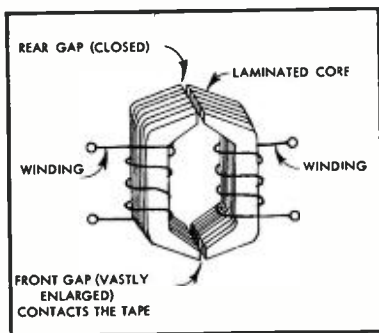
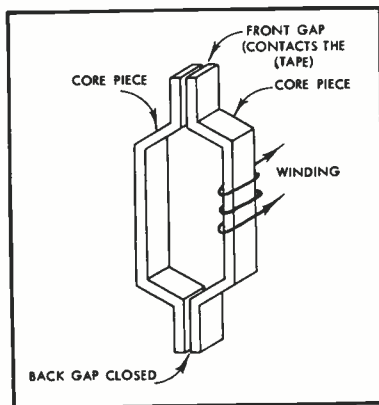
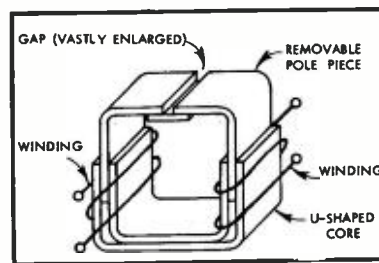
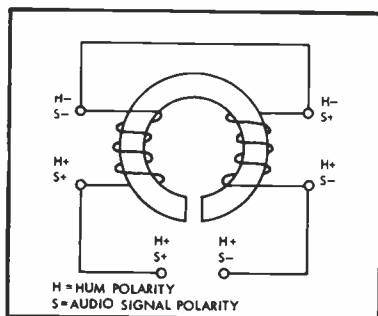

Fig. 3. Tape head of laminated construction.
Fig. 4. Tape head of non-laminated construction.
Fig. 5. Another type of non-laminated tape head.
Fig. 6. Connecting the dual windings of a tape head in series for maximum voltage output and for hum cancellation.
3. **Head Construction.** Heads are basically of two types, laminated and non-laminated, as illustrated in Figs. 3 and 4. The laminated head tends to have greater output because of its greater volume of magnetic material. Moreover, the laminations serve to reduce eddy current losses (by interrupting eddy current flow), which increase with frequency.
Figure 5 shows another type of non-laminated head, whose gap has considerably less depth than in Figs. 3 and 4. This means that the gap wears more
4. *Hum-Bucking Windings.* Whereas the heads in Figs. 3 and 5 each have two sets of windings, the head in Fig. 4 has only one winding. Two windings are desirable because this permits connecting them in series so as to balance out hum and at the same time increase voltage output. The manner of connection is illustrated in Fig. 6. Hum polarity tends to be the same at each output terminal, so that there is little or no hum potential between the terminals. On the other hand, the signal polarity at one terminal is positive when the other is negative.